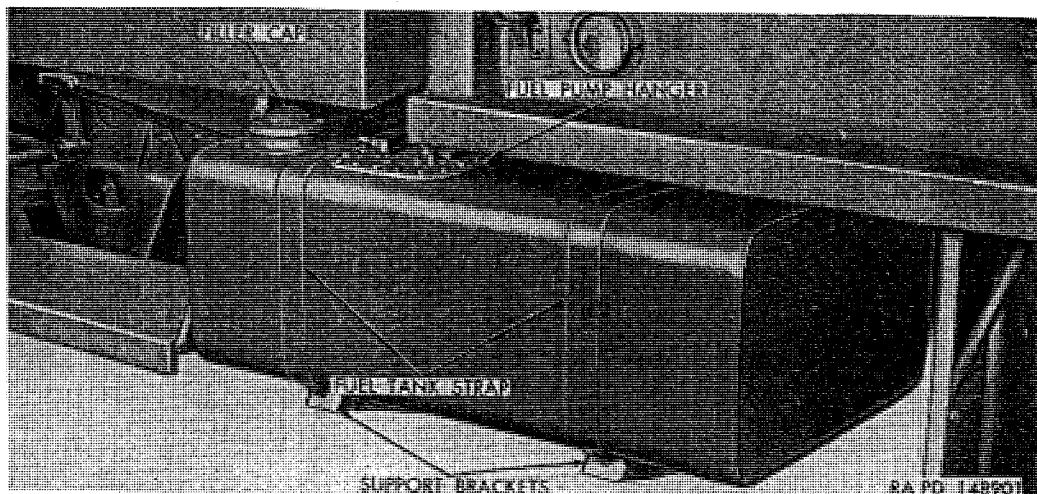

Figure 127. Fuel tank installed.
a. Description. Fuel tank (fig. 127) is supported by brackets bolted on frame at left side of vehicle, and is held in place by straps which pass over top and down outer side of tank and are anchored to supports. Fuel tank is equipped with filler cap and drain plug and is vented to atmosphere through chassis unit vent system (par. 136). Fuel gage sending unit (par. 171*b*) and fuel pump assembly (par. 133) are installed in fuel tank. Fuel lines to supply fuel to carburetor are shown in figure 122.